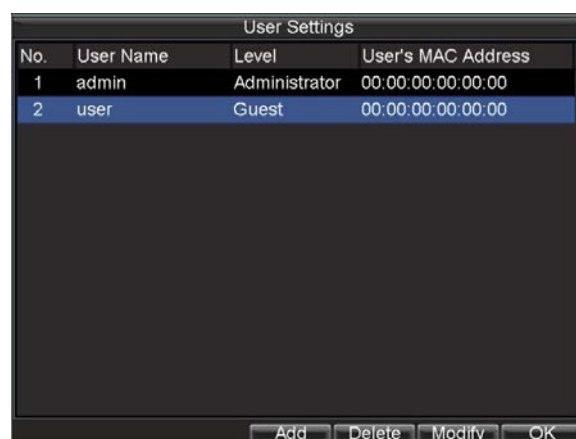

Figure 4. User Settings Menu
1. Click Menu > Settings > User to enter the User Settings menu, shown in Figure 4.